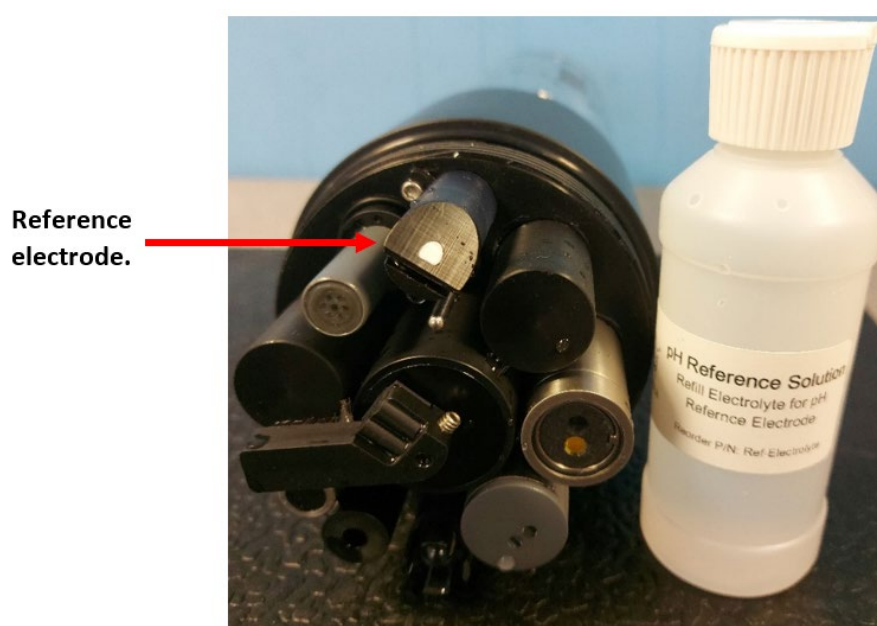

Figure 35: Reference electrode and pH electrolyte solution (provided in maintenance kit).
1. Remove the reference cap, also known as the Teflon junction, by unscrewing it from the reference sleeve and discard the old reference electrolyte fluid (Figure 35).